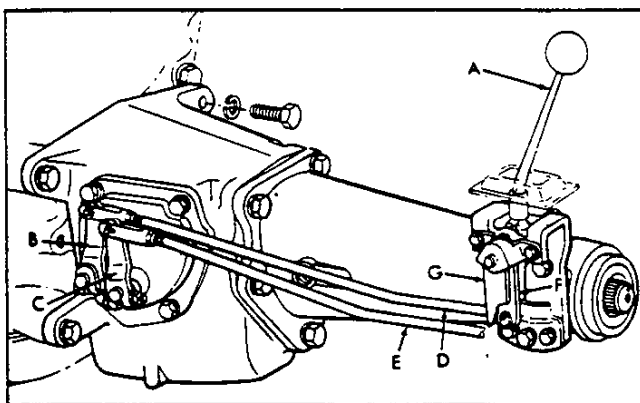

Fig. 3—Shift Linkage Adjustment
shifter levers on the transmission to the levers of the floor shift lever assembly attached to the extension housing (fig. 3).
1. Set levers (A), (B), and (C) (fig. 3) in neutral detent position.